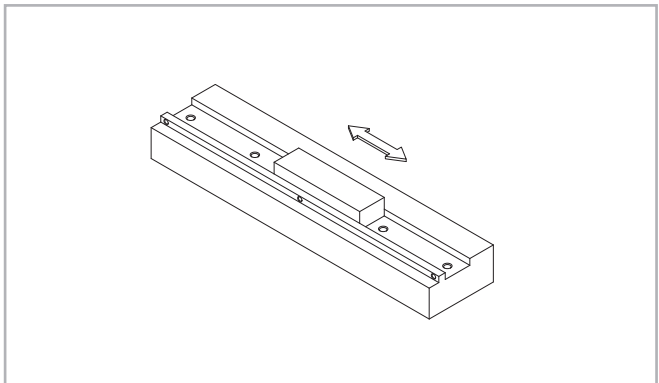

Fig. 57
(1) Whet the assembly surface with a whetstone and also remove burrs, unevenness and dirt (see fig. 57).